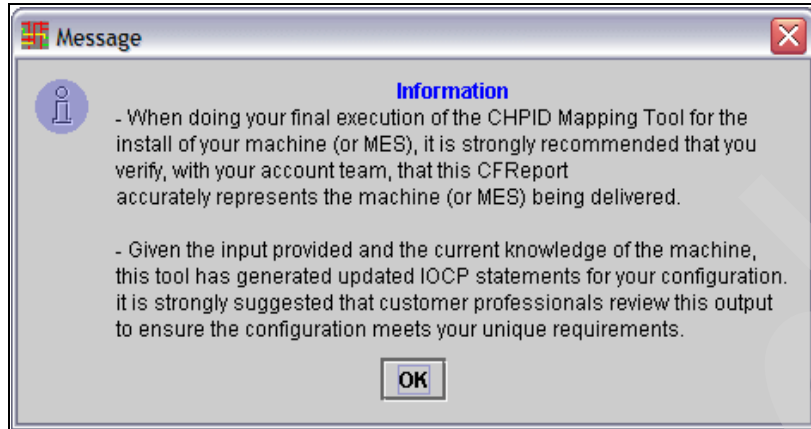

Figure 5-49 CMT - informational message
3. The CHPID Mapping Tool displays an informational message, shown in Figure 5-49 on page 245, regarding what to do for the final execution of the tool.